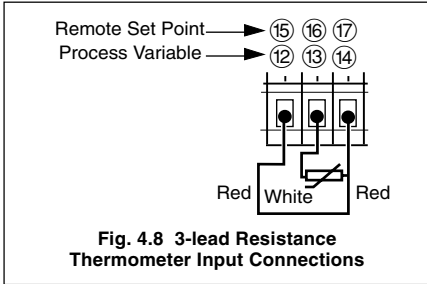

Fig. 4.8 3-lead Resistance Thermometer Input Connections
4.6.2 3-lead Resistance Thermometer (RTD) Inputs – Fig. 4.8